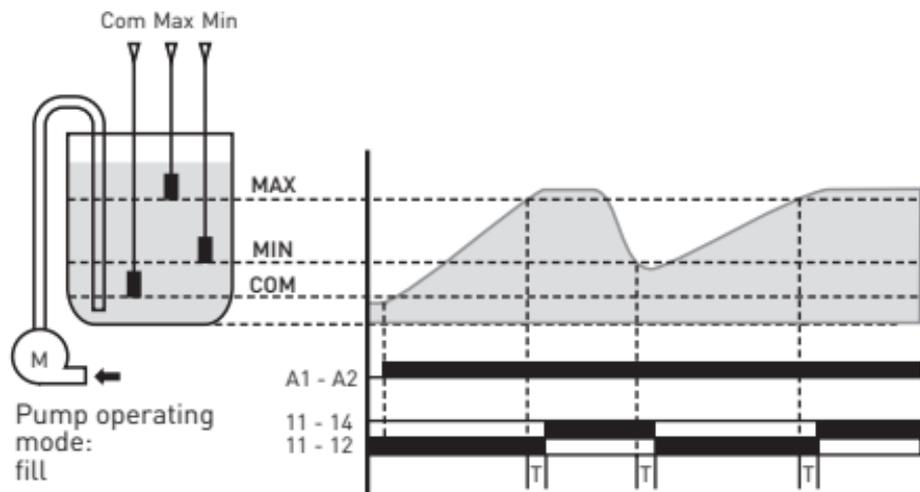

Fig. 3
Filling, 3 contacts (electrodes), refer to Figure 3. Connect every sensor wire directly to "Com", "Max" and "Min" contacts. Liquid level is below the minimum (MIN), contacts 11-12 are closed, the pump runs. When the maximum level (MAX) is reached, the relay switches ON with the time delay (T), the contacts switch to position 11-14, the pump stops. The relay is in ON position until the liquid level falls below the minimum (MIN). When the relay switches off with the time delay (T), the contacts switch back to position 11-12, pump starts.